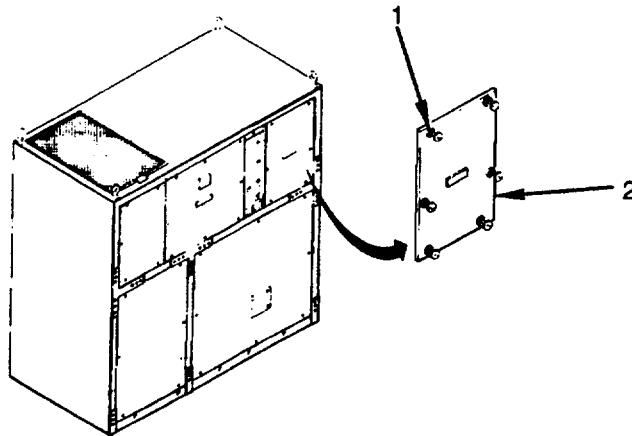

Figure 4-21. Right Front Evaporator Panel Installation
- d. Install Right Front Evaporator Panel. Install panel (2) and tighten six captive fasteners (1) (see Figure 4-21).